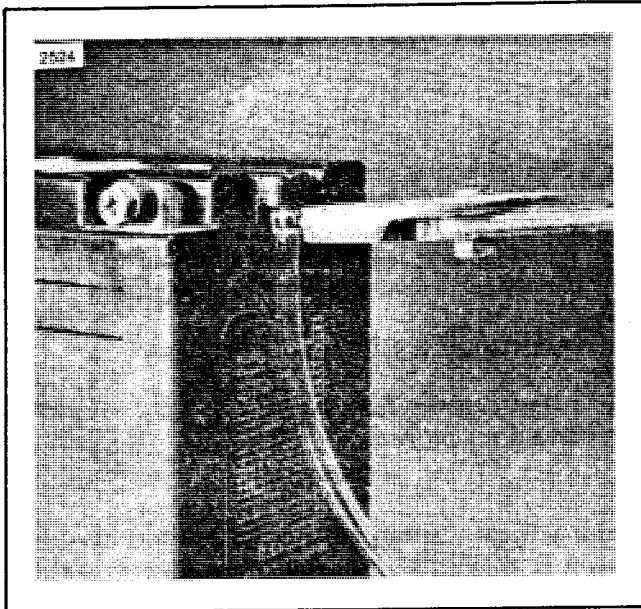

Figure 3. Tube Clamp Installation
- See Figure 3. Install the clamp on the long tube, sliding it up against the battery surface. Rotate the clamp tangs as far as possible toward the battery so the tangs cannot catch on clothing.